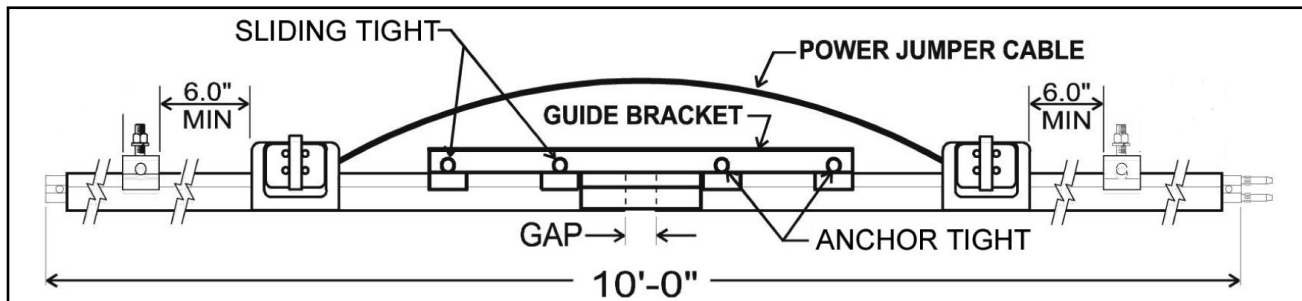

Figure 20-1
- The anchor tight side is the side with the pin installed at the end of the bar. See **Figure 20-1**.